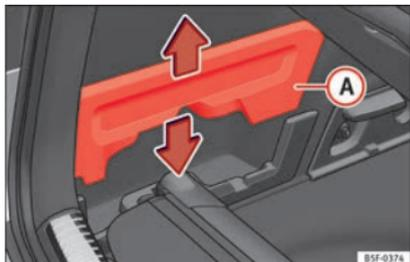

Fig. 166 In the luggage compartment: housing for storing the rear shelf.
- Remove covers »» Fig. 166 **A** left and right.